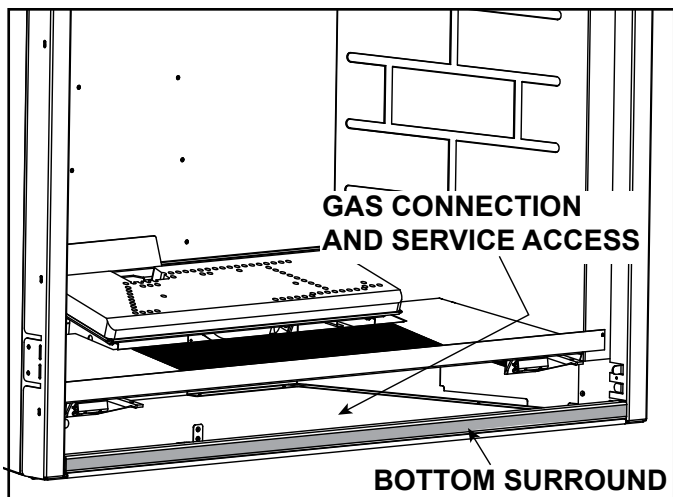
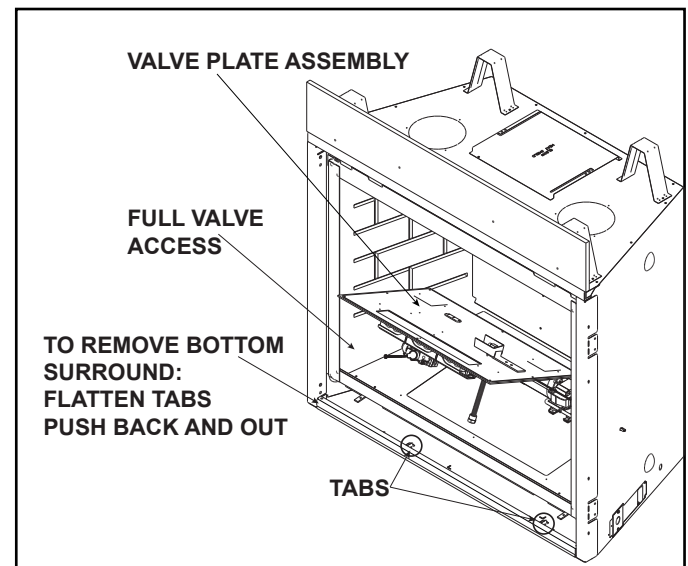

Figure 9.1 Bottom Surround Removal (Generic Fireplace Shown)
Figure 9.4 Gas Valve Access (Generic Fireplace Shown)
- The bottom surround for this appliance may be removed to gain access to the control cavity for ease of access during the gas connection process. See Figure 9.1 and Figure 9.4.
- Remove decorative barrier front, glass, logs, base pan assembly, burner assembly and valve plate assembly. See Figure 9.4.